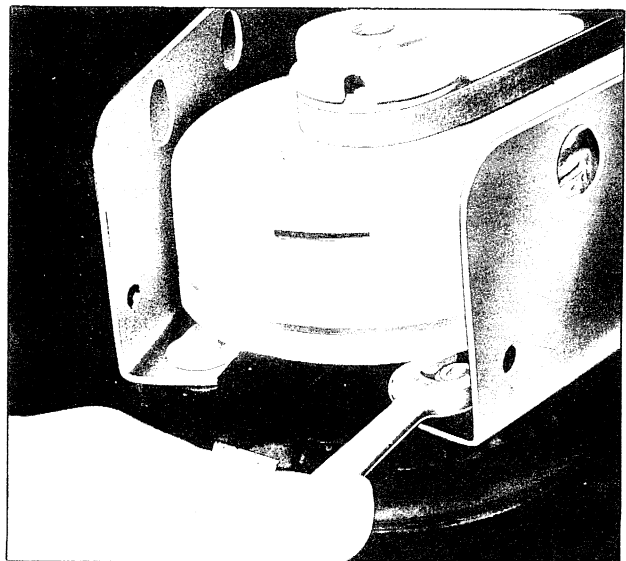

Figure 109
2. Remove the V-belt; loosen the motor holding nuts, *Figure 109* to remove the belt.